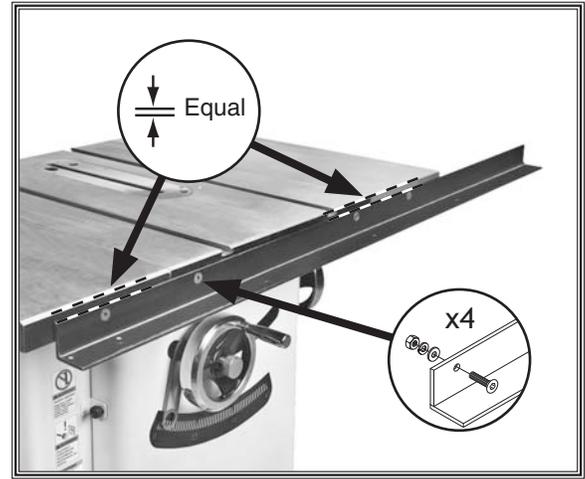

Figure 17. Front rail attached parallel with the table top.
- Attach the front rail to the table and extension wings with (4) M8-1.25 x 35 flat head screws, 8mm flat washers, 8mm lock washers, and M8-1.25 hex nuts, as shown in **Figure 17**.